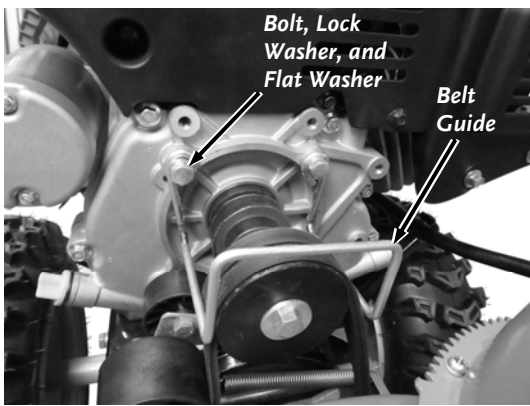

Figure 62
2. Remove the two Bolts, Lock Washers and Flat Washers that secure the Belt Guide to the Engine and remove the Belt Guide (**Figure 62**).
15. Install the Belt Guide (**Figure 62**).